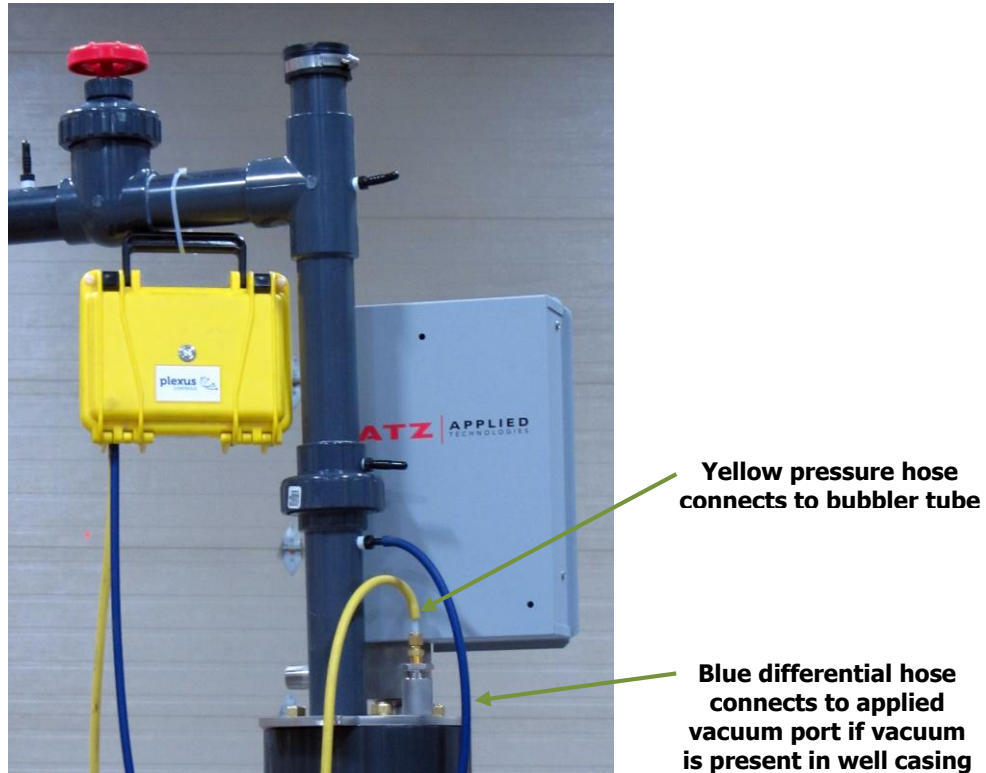

Figure 4 – RMS hose connections to bubbler, gas well head
4. Move to the well to be measured, and connect the yellow pressure hose of the RMS to the bubbler tube. If the well is under vacuum, connect the blue hose to the applied vacuum port. These connections are shown in figure 4 below.